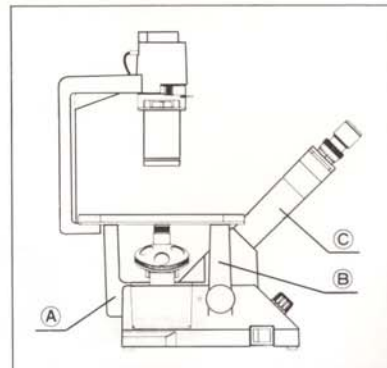
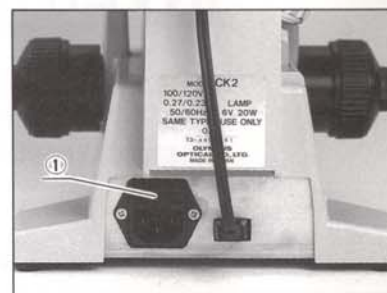

Fig. 1
Fig. 2
- ① As a microscope is a **precision instrument**, always handle it with the care it deserves and **avoid abrupt motions and shocks**.
- ② When you remove the microscope from the styrofoam case, hold the stage legs at **(A)** and **(B)**. (Fig. 1)
- ③ For movement of the microscope, hold the stage leg **(A)** and the observation tube **(C)**. Do not hold the lamp housing pillar. (Fig. 1)
- ④ The light source incorporates a 6 V 20W halogen bulb. Do not use any other bulb.
- ⑤ **Avoid exposure of the microscope to direct sunlight, high temperature and humidity, dust and vibration.**
- ⑥ Before use, ascertain that the line voltage selector switch at the base plate of the microscope stand is set in conformity with the local line voltage.
- ⑦ Before fuse replacement, disconnect the power cord from the AC outlet. The fuse box ① is located at the back of the microscope stand. (Fig. 2)